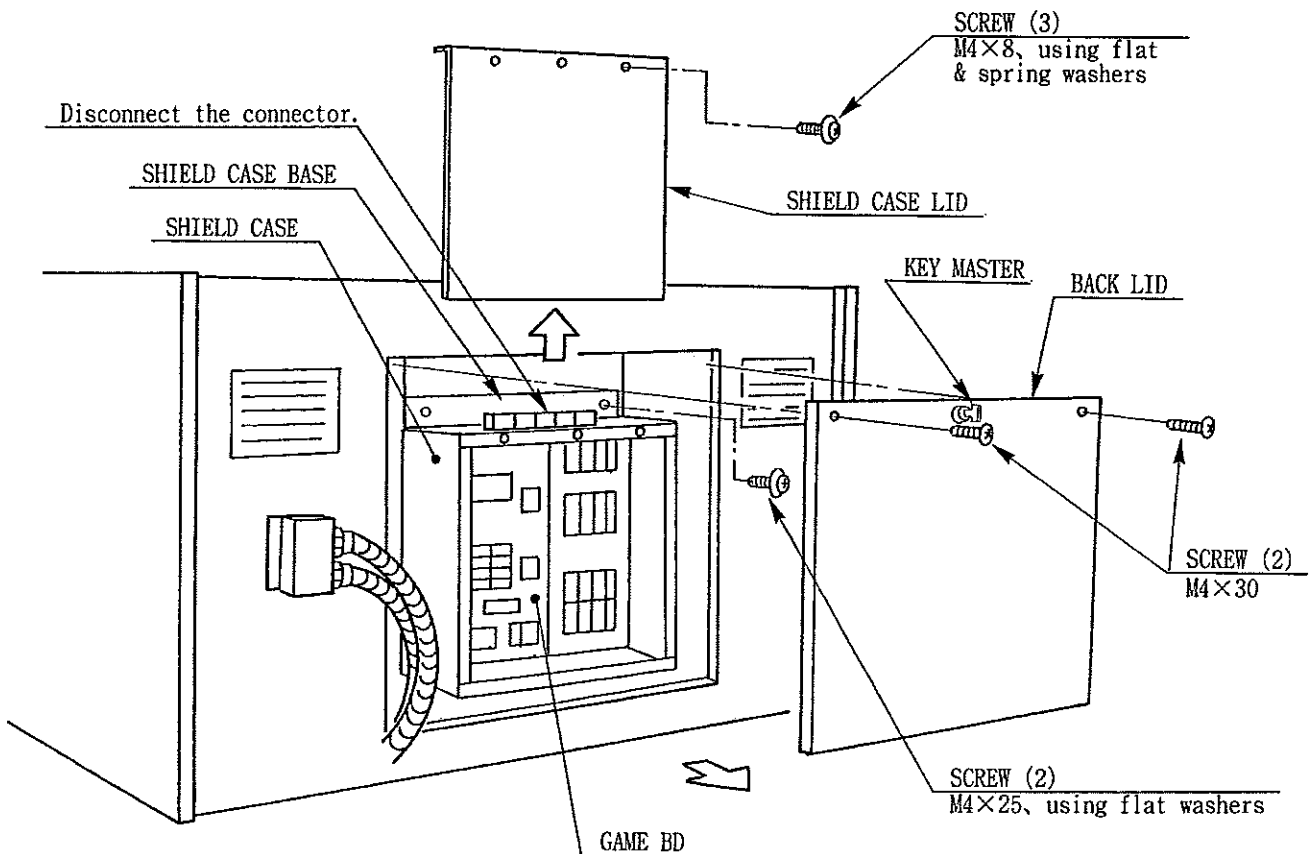

FIG. 16.1
- ③ Remove the Back Lid from the Front Cabinet DX.
- ④ Disconnect all of the Connectors which are connected to the Shield Case. Remove the 2 screws securing the Wooden Base on which the Shield Case is to be mounted, and take out the Shield Case together with the Wooden Base from Cabinet DX (FIG. 16.1).
- ⑤ By using the accessory and removing the Fuse Cover, replace the Connect Board Fuse of ASSY AC SPLY (ZMB-1440).
- ⑥ By using the reversed procedure, reinstall the Shield Case to Front Cabinet DX and connect the Connectors.
- ⑦ Reinstall the Back Lid and secure the PTV and Front Cabinet DX.